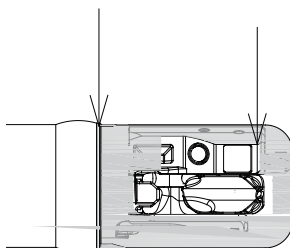

Figure 3-14 Confirming the Space
- Ensure that there is no gap between the distal end and the distal end cap in areas indicated by arrows, as shown in Figure 3-14.